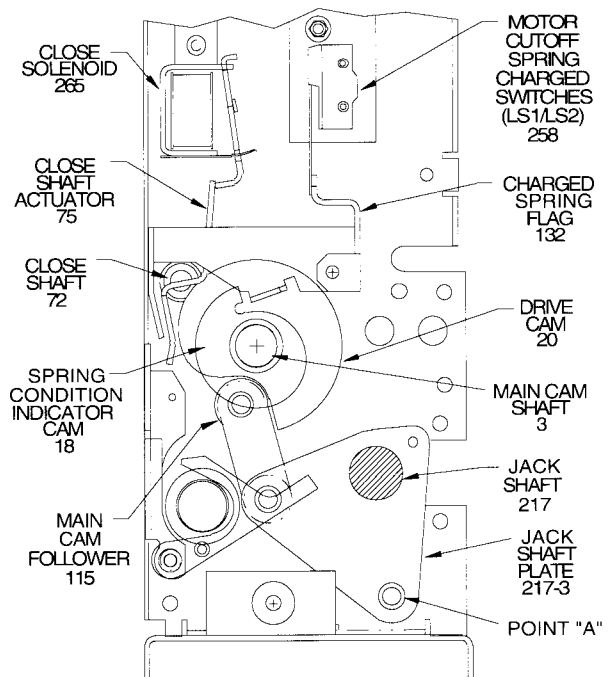

Figure 17a: Closing Mode
At the beginning of the charging cycle, ratchet pin (16) is at the 6 o'clock position. The ratchet pin is connected to the ratchet wheel. Upon being advanced by ratchet action to the 12 o'clock position, this pin engages the drive arms (8) which are keyed to the main cam shaft. Consequently, counterclockwise rotation of the ratchet wheel causes the ratchet pin to drive the main cam shaft counterclockwise. When the ratchet pin reaches the 6 o'clock position, the closing springs are fully charged. Driving pawl (24-1) is disengaged, the spring condition indicator cam (18) has rotated allowing the spring charged flag (132) to drop into the lower (charged) position, which also operates the motor cutoff switch (LS1) and spring charged switch (LS2) (258) (see **Figures 17a** and **27**). The closing springs are restrained fully charged by close hatchet (22) against close shaft (72).
Closing Mode (Figure 17a) - Energizing the close solenoid (265) pulls the solenoid armature against the closing shaft actuator (75) and causes the close shaft (72) to rotate approximately 15°. If the closing springs are charged, the close hatchet (22) will be released by this rotation allowing the main cam shaft (3) to be driven by the closing springs. Depressing the manual close button on the operator panel causes the rotation of the close shaft (72) by the lower end of the close shaft actuator (75). Rotation of the main cam shaft (3) in a manual closing operation is identical to that of an electrical closing operation. As the main cam shaft (3) rotates, the cam follower (115) is driven by drive cam (20), and the main link (120) is forced outwards, and rotation of the jack shaft assembly (217) occurs. There are three drive links attached to Point "A" of each of the three jack shaft drive plates. Each drive link is connected to the movable contact of one vacuum interrupter. Closing rotation (counterclockwise) of the jack shaft assembly closes the contacts of the three vacuum interrupters. During closing operation, rotation of jack shaft assembly (217) forces the opening (i.e., tripping) spring into its charged position.